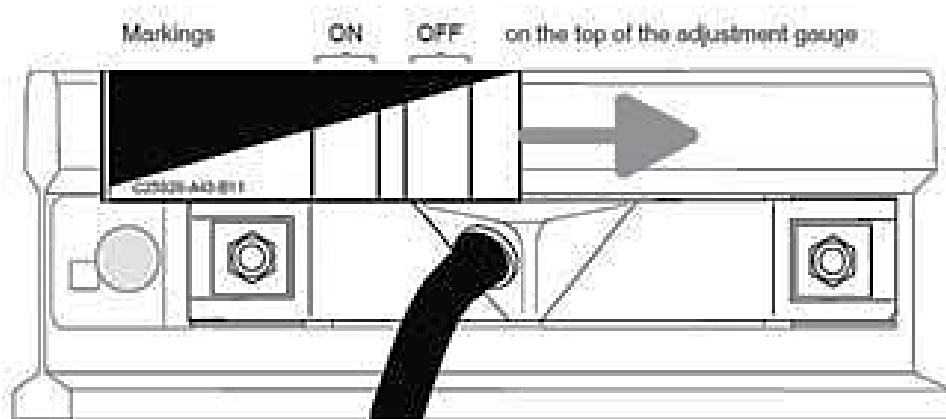

Figure 2 – Placement of Gauge on the Rail
- 2.1 Place the adjustment gauge on the wheel sensor so it is in contact with the rail head and then slide it along the rail over the wheel sensor. In the direction of the arrow (as shown in Figure 2). Check the follower relay operates when the centre marking on the wheel sensor housing is within the 'ON' section markings on the adjustment gauge.